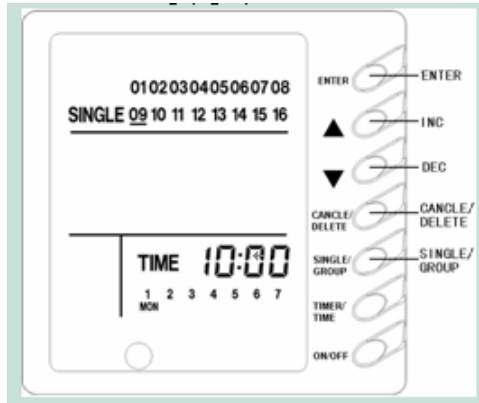

Fig.6.
1. Single control setting (fig.6)